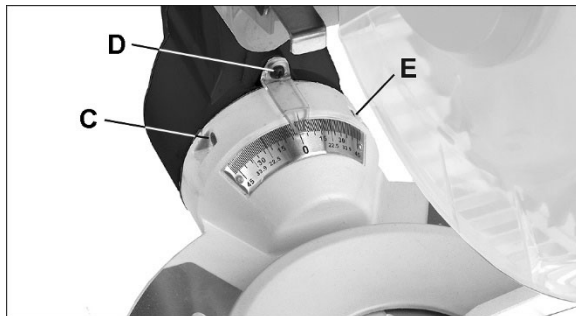

Figure 8-7
6. If blade is not 90° to miter table (i.e. square does not sit flush against both surfaces), turn right set screw (E, Figure 8-7) in or out until blade is 90° to table.
7. If needed, loosen screw (D, Figure 8-7) and adjust bevel angle indicator to align with zero on scale. Retighten screw.